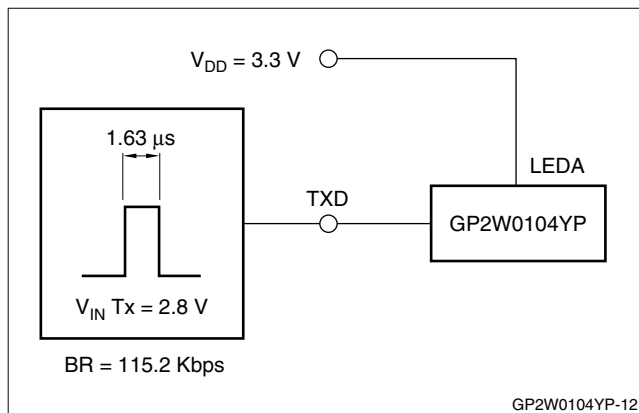

Figure 12. Recommended Circuit (Emitter Side)
3. LED ON. See Figure 12.
4. LED OFF. See Figure 12.